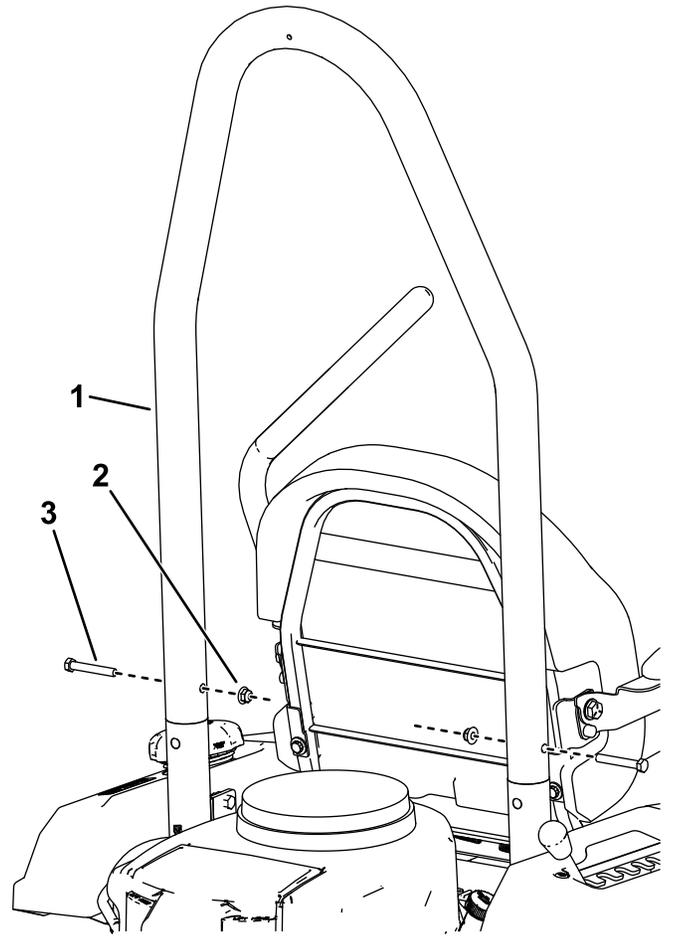

Figure 12
4. With the ROPS tube angle toward the front of the machine, install the ROPS tube to the ROPS mounts with 2 bolts (3/8 x 2-1/2 inches) and 2 locknuts (3/8 inch) as shown in Figure 12.